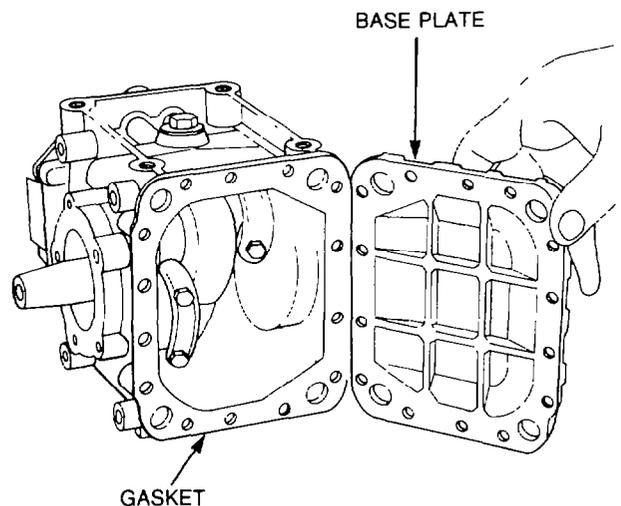

Figure 337 — Base Plate — Removal
- g. Remove the fourteen bolts securing the base plate to the crankcase, then gently pry or tap the base plate to loosen the gasket. Remove the base plate and discard the gasket (see Fig. 337).